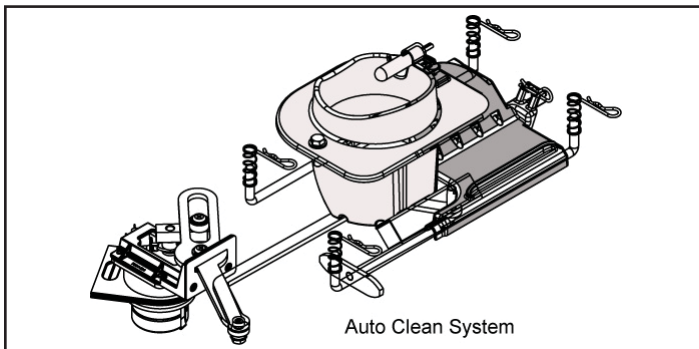

Figure 23.1
- b. Open the firebox door. Inspect the auto-clean springs: **Fig. 23.1**